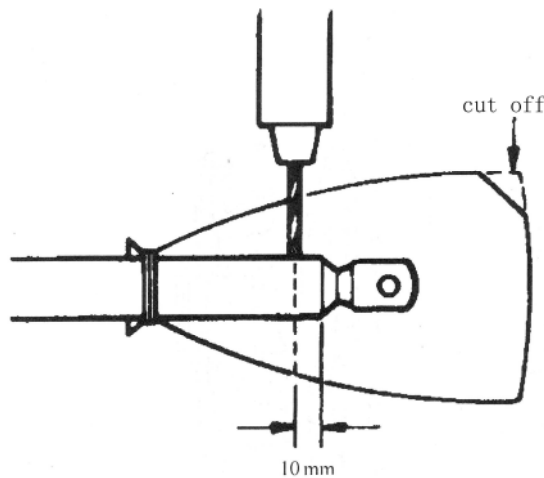

Fig. 18-46
- (1) after disassembly the dumper, keep it away from high temperature or fire.
- (2) if the tailgate dumper is useless, must exhaust by boring holes. After package it with plastic bag and tie it up, boring holes (2~3mm) upright cross the bag .see Fig.18-46.